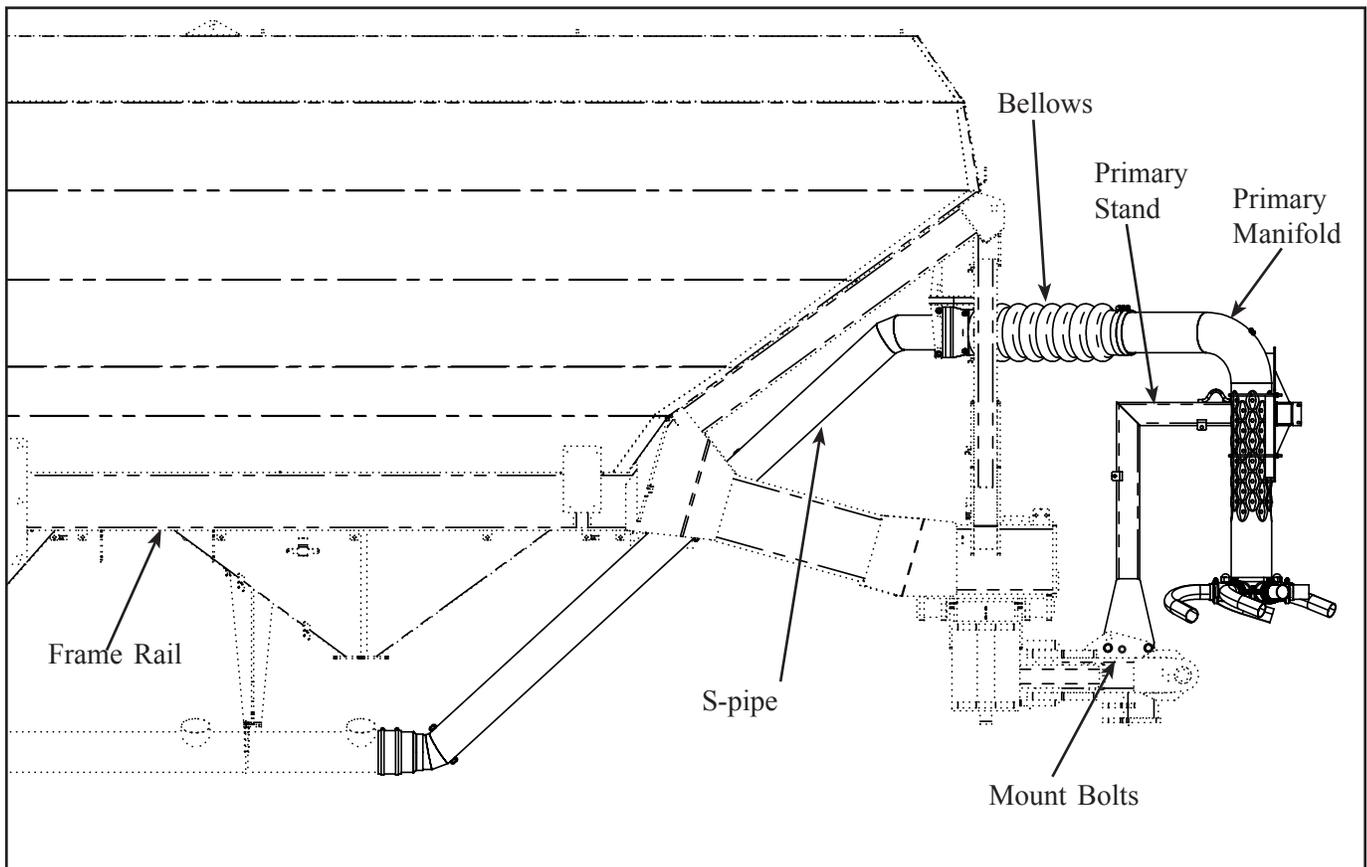

Figure 2
See *Figure 2*.
- Zero digital level to frame rail or top of steering box, refer to *Figure 2*.